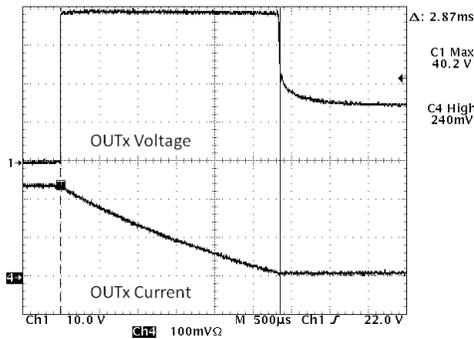

Figure 4. Repetitive Clamping Energy Test
3. Testing particulars, 2M pulses, $V_{bat} = 15\text{ V}$, $63\ \Omega$, 390 mH, $T_A = 25\ \text{°C}$. (See Figure 4)